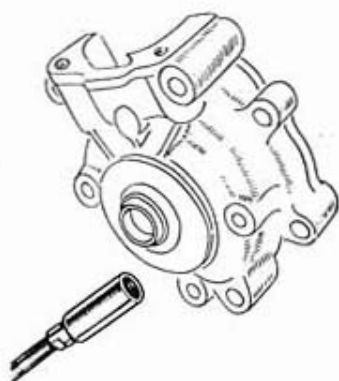

Fig. 4
- Heat with a propane torch the crankcase half facing the clutch side around the outside of the crankshaft bearing (begin with this side because it is then easy to separate crankcase shells) (fig. 4).
- The crankcase half will drop away on its own (fig. 4).
- Repeat the operation for the other crankcase half (fig. 4).